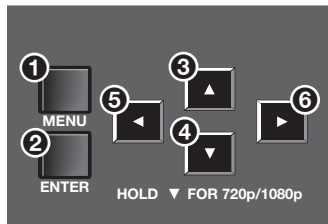

Figure 17. Menu Selection Buttons
- **Menu button** — Press the **Menu** button (see figure 17, **1**) to activate or exit the on-screen menu, deselect a submenu, or cancel a pending change.